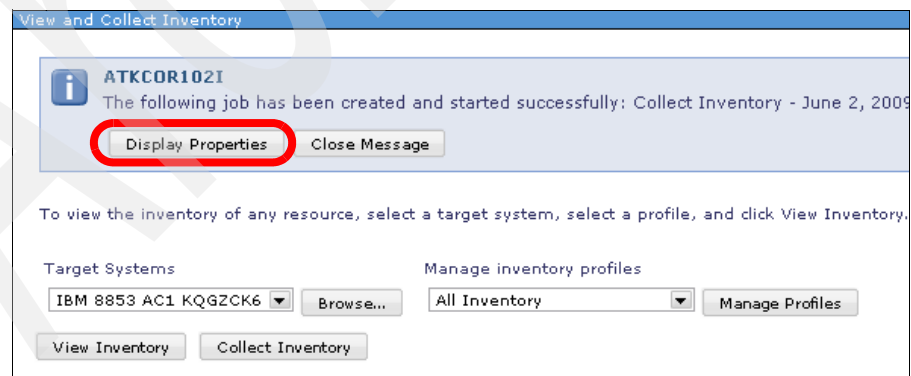

Figure 3-11 Verify the collect inventory by selecting Display Properties
5. To verify that IBM Systems Director successfully collected the inventory, select **Display Properties**, as shown in Figure 3-11.